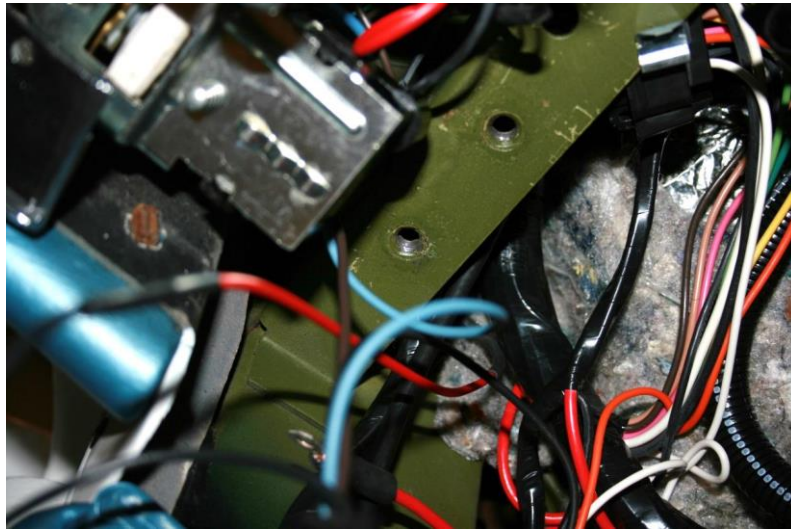

Figure 12 – Locate Module under Dash
27. The Detroit Speed Electric Headlight Door Kit Control Module bracket is designed to be mounted to the two threaded holes on the far left side of the dash just above the driver's side kick panel (Figure 12 on the next page). If the vehicle has the hood release cable bracket mounted in these holes, remove the two bolts that hold the hood release cable bracket.